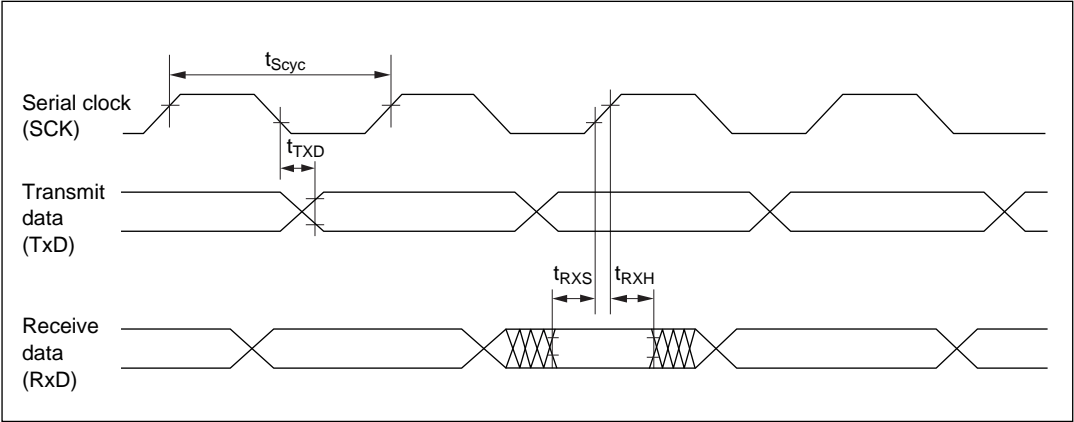

Figure 16-15 SCI Input/Output Timing (Synchronous Mode)
16.3.5 SCI Timing	Figures 16-15 to 16-16